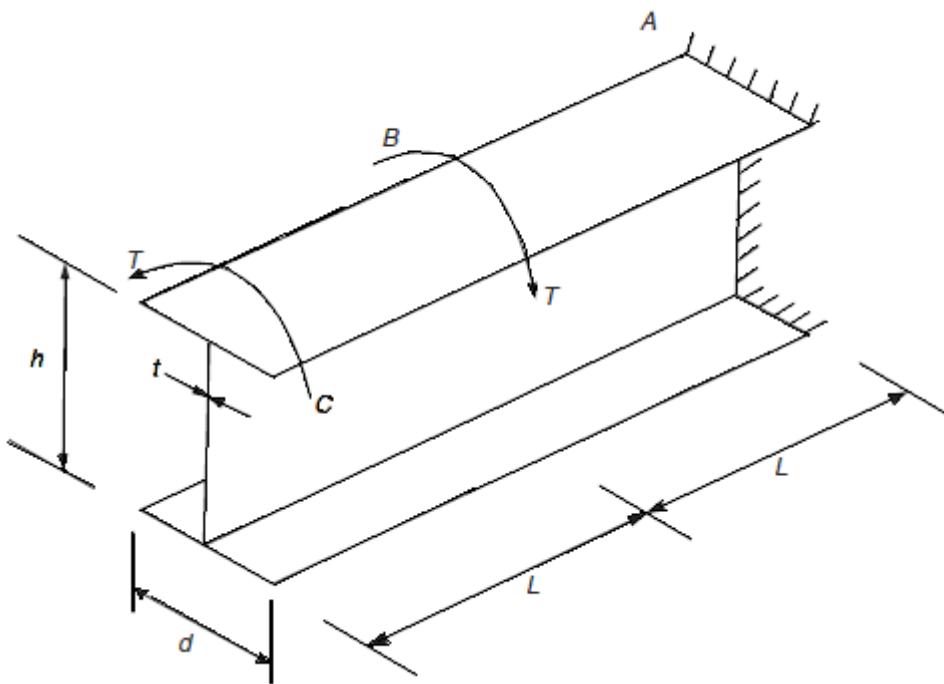

Figure 10:
6. Determine the torsion bending constant for the thin-walled beam shown in Figure 10 and also derive an expression for the angle of twist at its free end. [16]